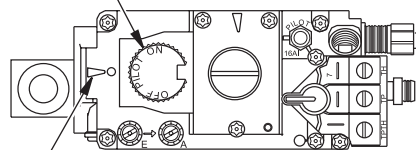

Figure 23 - Millivolt Control Valve
5. Push in gas control knob and turn clockwise to the OFF position (see Figure 23). **Note:** It is recommended that you maintain the gas control knob in the full OFF position during lengthy periods of seasonal non usage.
6. Wait five (5) minutes to clear out any gas. Then smell for gas, including near the floor. If you smell gas, **STOP!** Follow "B" in the safety information above. If you don't smell gas, go to the next step.
8. Push in control knob all the way and hold in. Immediately light the pilot by pressing the red ignitor button until a flame appears. Continue to hold the control knob in for about (1) minute after the pilot is lit. Release knob and it will pop back up. Pilot should remain lit. If it goes out, repeat steps 5 through 8.